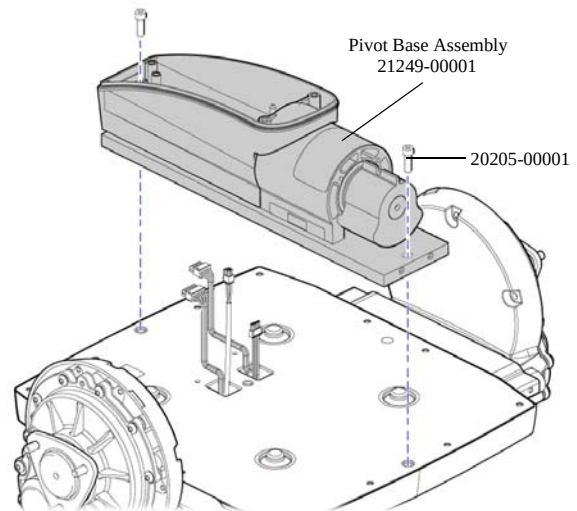

Figure 9-17: Remove Pivot Base Assembly (with Console Housing Attached)
See Figure 9-17.
3. With pivot base angled straight up, guide (4) harness connectors through bottom of base plate. See Figure 9-17.
4. Thread (2) SHCS, M6 x 1 x 20, 6-lobe screws (20205-00001) through base plate and chassis cover into chassis.